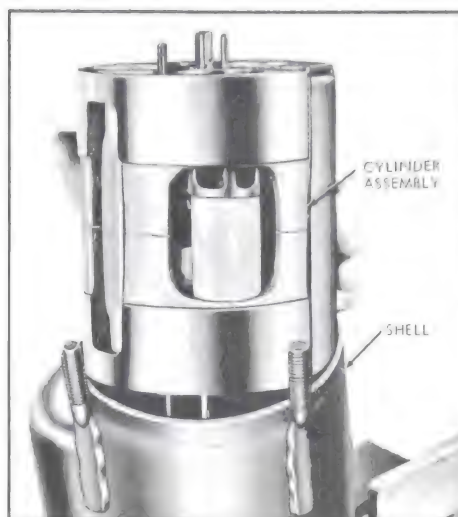

Figure 11-121—Removing Cylinder Assembly
2. Push on front of compressor shaft to remove cylinder assembly from shell. See Figure 11-121. The cylinder assembly will slide out of shell when shell is inverted.